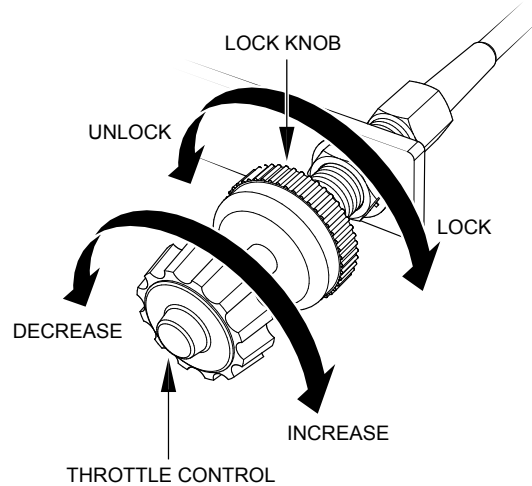

Figure 23. Throttle Control
9. Unlock the throttle control lock knob (Figure 23) by turning the knob counterclockwise.